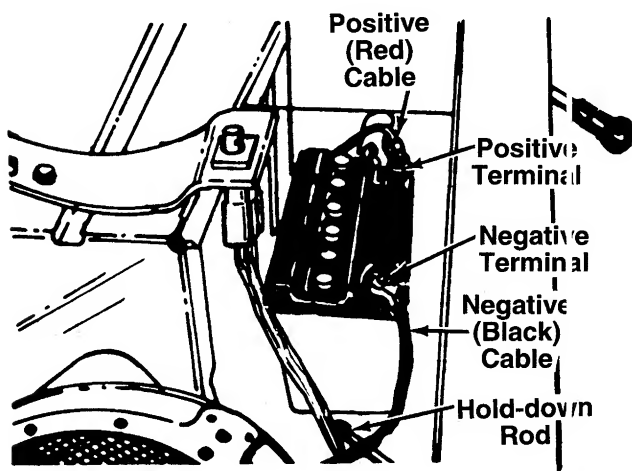

FIGURE 12.
1. Place the battery in the lawn tractor with the positive terminal to the front. The negative terminal goes to the rear of the unit. See figure 12.